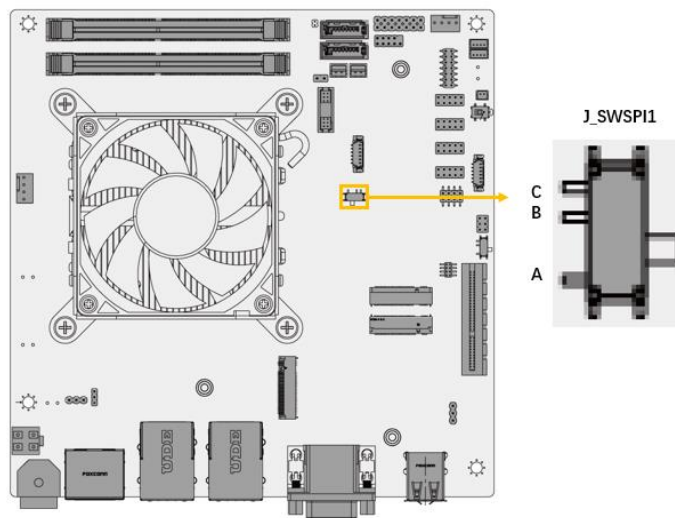

Figure 3-26: BIOS Programmer Switch Location
- CN Location:** See Figure 3-26